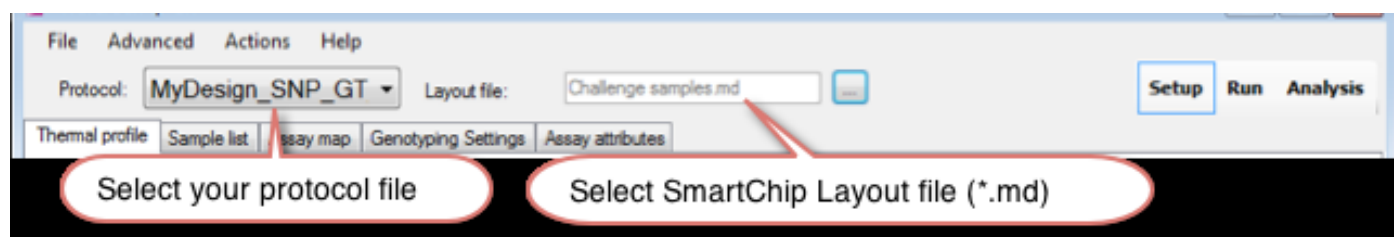

Figure 56. Selecting a saved protocol from a previous experiment for your SmartChip MyDesign Chip.
- Select an appropriate saved protocol from a previous experiment (Figure 56).